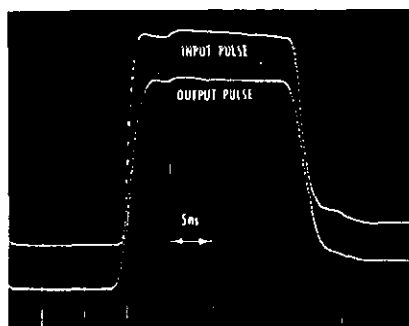
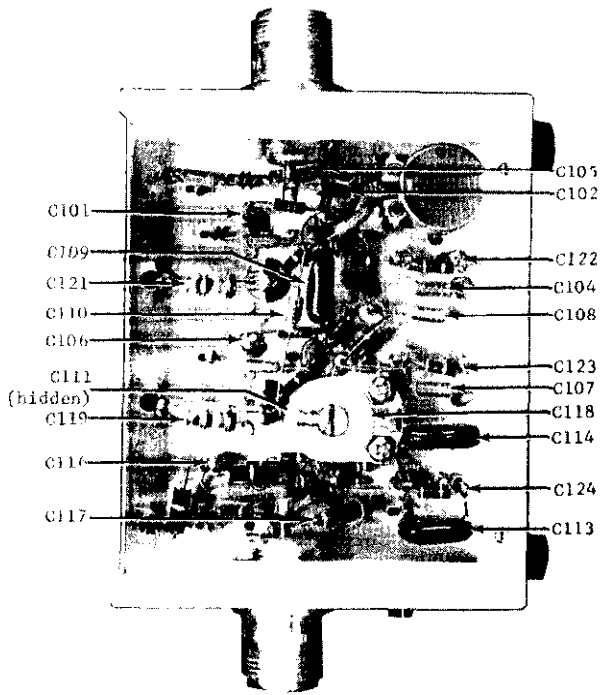

FIGURE 11. Pulse Fidelity of Model 109 Pulse Amplifier. Note how the output pulse follows the input pulse.
FIGURE 12. Capacitor Locations. The INPUT Receptacle is at the top of the illustration. Both the Models 108 and 109 have the same component locations.
c. The low-frequency gain should be previously set (paragraph 5-3). Set trimmers C103, C112 and C115 (Figure 14) to their minimum values. Set trimmer C118 (Figure 12) to minimum by noting when the lowest high-frequency response curve appears on the oscilloscope. Set trimmer C115 to approximately 1/3 of maximum to keep the Amplifier from oscillating into an open circuit at high frequencies. Set trimmer C103 near its maximum. Set trimmer C112 to approximately 1/2 maximum. The response should rise at about 50 to 100 Mc.
d. The low-frequency gain should be previously set (paragraph 5-3). Set trimmers C103, C112 and C115 (Figure 14) and C118 (Figure 12) to their minimum values. Set trimmer C115 to approximately 1/3 of its maximum value. Adjust trimmers C103 and C112 so that the output pulse looks exactly like the input pulse (Figure 11). If the input pulse has less than 1% overshoot and ringing, adjust trimmers C103 and C112 for less than 1% overshoot and ringing on the output pulse. Keep trimmer C118 at its minimum value.